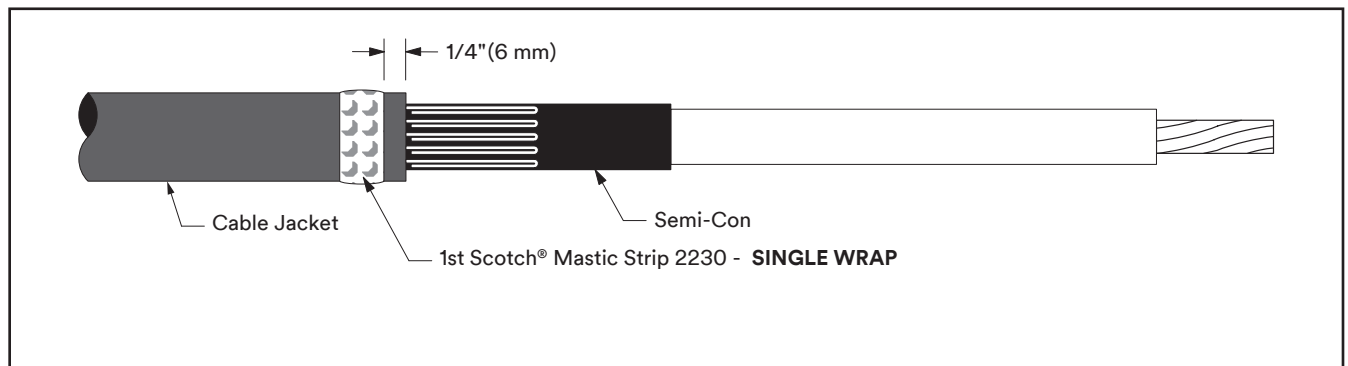

Figure 11
- 8.1 Select a Scotch® Mastic Strip 2230 from kit and remove white release liners. Using light tension, apply a **SINGLE WRAP** of mastic around the cable jacket 1/4" (6 mm) from cut edge (Figure 11). Cut off excess.